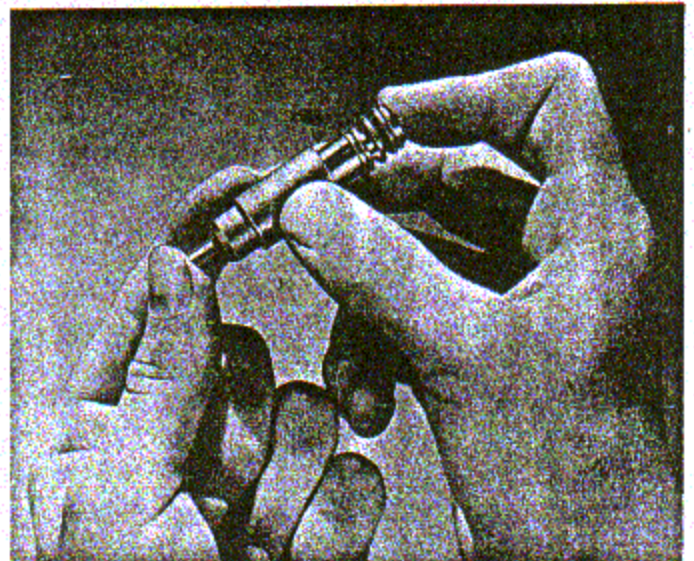

Figure 9-4. Testing For Leaking Check Valve
c. Test the two separable parts of each hydraulic unit for proper operation, immediately after cleaning and drying, in the following manner. Start the dry plunger into the dry cylinder, held upright between the fingers and thumb. With the forefinger of the same hand press the plunger inward, (see figure 9-4) and release it quickly. If the plunger and cylinder are not excessively worn, and if the ball check valve in the cylinder is seating properly, the plunger will compress the air trapped under it and will kick back promptly. By rapid repetition of this rough check, the plunger can be forced gradually into the cylinder, since some air will escape each time it is pressed inward. This is not a disqualifying condition, since a definite "leakdown" rate is essential to correct operation and is controlled by selective fitting of plungers and cylinders, however, there must be a prompt kickback each time the plunger is depressed. If the plunger does not kickback promptly or very near to its original position it may be worn excessively, or the check valve seat may be worn out-of-round, or the check ball may be held off its seat by a particle of dirt. To eliminate check valve faults from the test, plug the end of the oil inlet tube with a finger of the other hand, and repeat the test for kick-back. If the response is still unsatisfactory the unit may be considered to be excessively worn, and it must be discarded. If the plunger kicked back promptly on the last test the trouble is in the check valve. In that event, clean the cylinder again